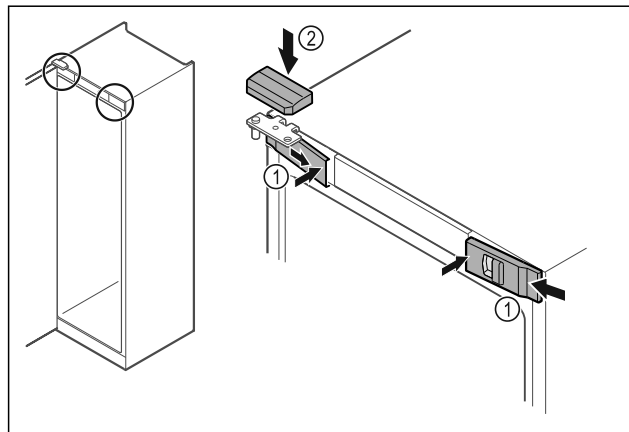

Fig. 33
- Hook in the front covers Fig. 33 (1) on the side and snap them into place on the inside.
- Snap on the top cover Fig. 33 (2) from above.